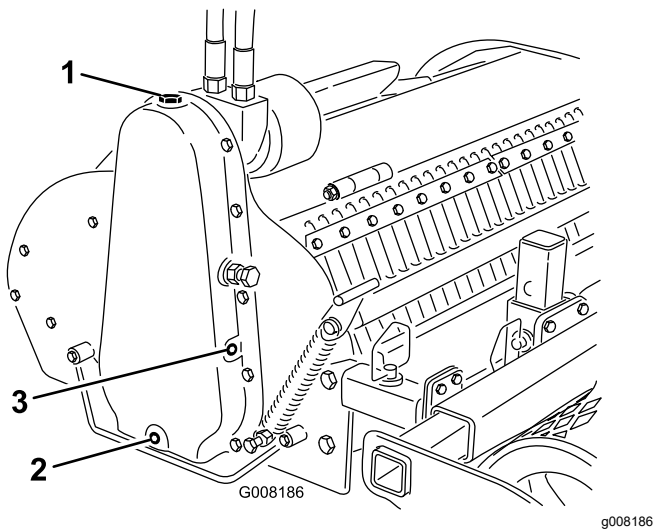

Figure 11
4. Open the oil-fill hole on top of the drive-chain case (Figure 11).
6. Remove the drain plug (Figure 11).
8. Remove the side plug (Figure 11).